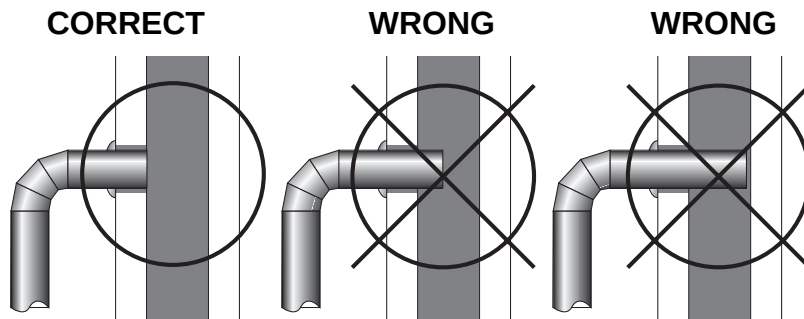

Fig.5 – Stovepipe/Flue Connections
4. The pipe cannot extend into the chimney flue (figure 5).
5. Secure pipe/elbow sections with three (3) sheet metal screws at each joint to make the piping rigid.
6. It is recommended that no more than two (2) 90 degree bends be used in the stovepipe installation. The use of more than two 90 degree bends may decrease the amount of draw and possibly cause smoke spillage. Where possible, use only corrugated (nonadjustable) elbows. These provide a better seal.